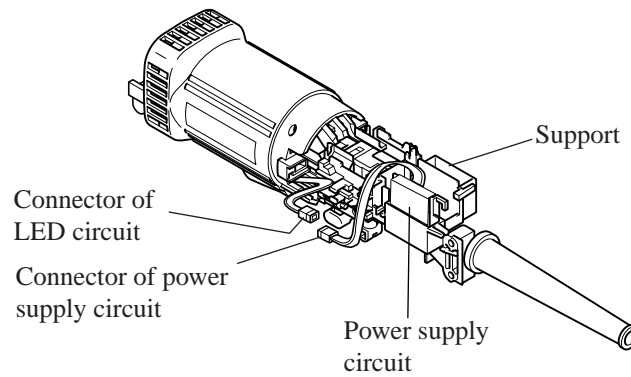

Fig. 18
(2) Disconnect the connector of LED circuit from the same of power supply circuit. See Fig. 18.